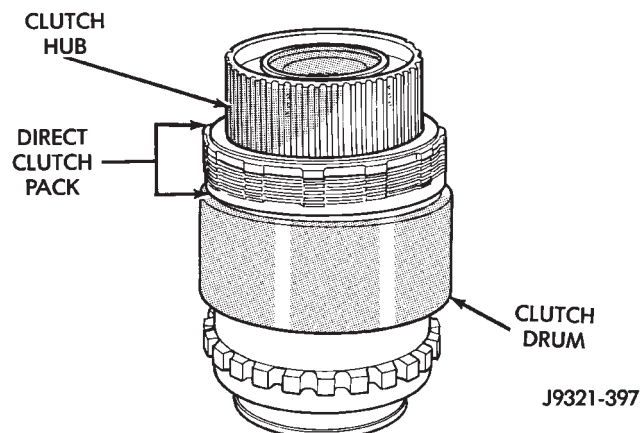

Fig. 234 Direct Clutch Pack And Clutch Hub Installation
(19) Install clutch hub and clutch pack on direct clutch spring (Fig. 234). Be sure hub is started on sun gear splines before proceeding.